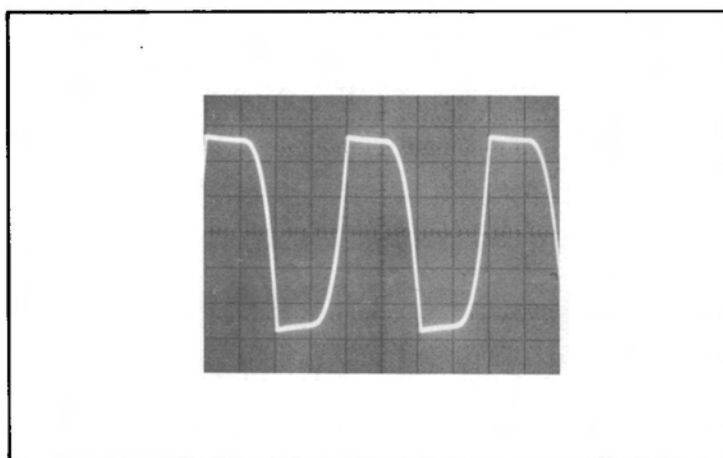

Figure 5-11. Search Waveform
4. Attach oscilloscope probe to feedthrough capacitor C8 (see Figure 8-8) and set oscilloscope VOLTS/DIV to 0.2 and TIME/DIV to 5 msec. Search waveform should be as shown in Figure 5-11 with amplitude from 8.5 to 11.5 V p-p.